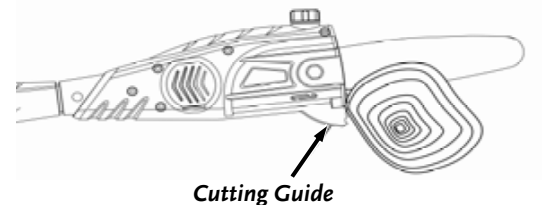

Figure 17
**Note:** For the second and final cuts (from top of limb or branch), hold front Cutting Guide against the limb you are cutting (**Figure 17**). This will help steady the limb and make it easier to cut. Allow the Chain to cut for you; exert only light, downward pressure. If you force the cut, damage to the Bar, Chain, or Motor can result.